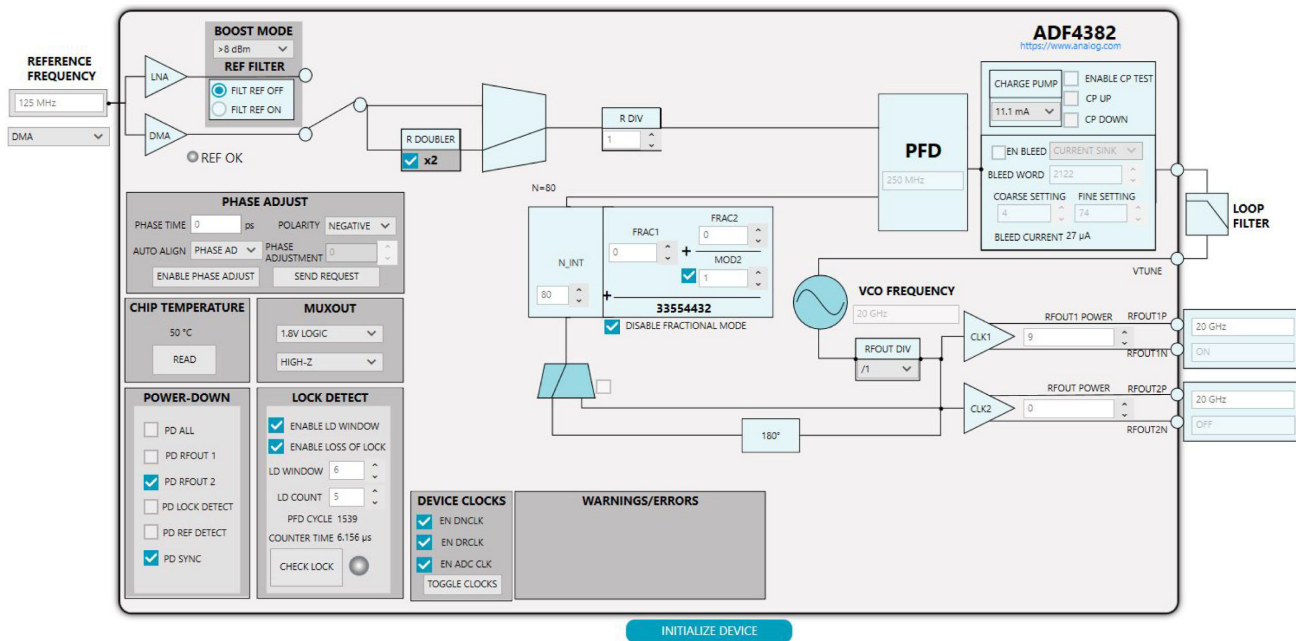

Figure 5. Front Panel
The output power of the clock output channels can be adjusted via the **ACE Software** individually using the **RFOUT1 POWER** and **RFOUT POWER** numeric selectors (see Figure 5).
The clock output channels can be powered down separately via the **ACE Software** or by hardware using the **PD RFOUT 1** and **PD RFOUT 2** check boxes (see Figure 5).
3. Double-click the **ADF4382** icon that appears on the board GUI to open the main control window shown in Figure 5.
The main controls are available in the high level register map shown in Figure 5. To modify registers, perform the following steps:
2. Click **INITIALIZE DEVICE** to write to all of the registers and to initialize the device (see Figure 5).
If the RFOUT frequency selected is outside of the operational range, an error message appears within the **WARNINGS/ERRORS** section (see Figure 5).
Specific blocks can be powered down by setting the corresponding power-down check box within the **POWER-DOWN** section shown in Figure 5.
The RFOUT phase can be controlled within the **PHASE ADJUST** section in the **ACE Software** (see Figure 5). To adjust the phase, perform the following steps:
Run the software and follow the steps given in Evaluation Board Software section to open the main controls shown in Figure 5.